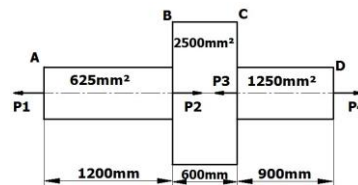

Figure 3
18. A member ABCD is subjected to point loads  $P_1, P_2, P_3$  &  $P_4$  as shown in **Figure 3**. Calculate the force  $P_2$  necessary for equilibrium. If  $P_1 = 45 \text{ kN}$ ,  $P_3 = 450 \text{ kN}$  &  $P_4 = 130 \text{ kN}$ . Determine stresses in each member also determine the total elongation of the member assuming the E to be  $2.1 \times 10^5 \text{ N/mm}^2$ .